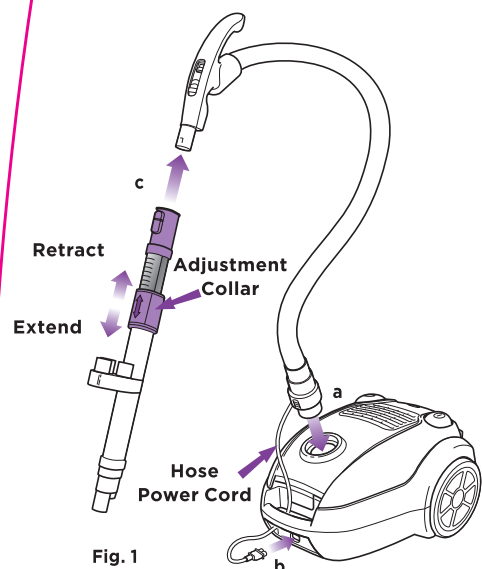

Fig. 1
- 2 Insert the end of the flexible hose opposite the handle into the air intake duct on the vacuum. (Fig. 1, a)
- 3 Plug the power cord from the hose through the handle into the vacuum. (Fig. 1, b)
- 4 Insert the end of the telescopic tube into the end of the flexible hose handle. (Fig. 1, c)